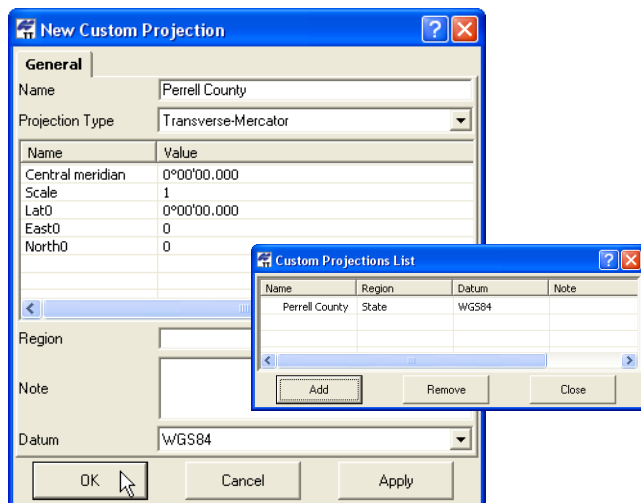

Figure 2-19. New Custom Projection
3. On the **New Custom Projection** dialog box, enter the following information and click **OK** (Figure 2-19 on page 2-13):